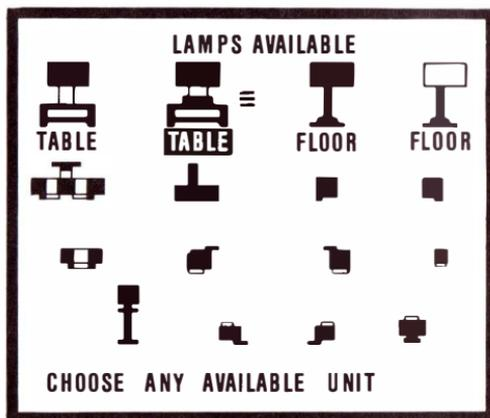

FIGURE 18
1. Choose either lamp or appliance with the joystick and press the button. In this case choose lamp. A screen of lamps will be shown, Figure 18. Names only appear under those units suitable for the location you have chosen. You cannot choose a chandelier if you have chosen a floor position. Select one of the lamps shown and press the joystick button. Later you may wish to select an **APPLIANCE** instead of a **LAMP** in step 1. In which case you will be shown a screen of appliances to choose from. And again you will not be able to choose say a T.V. if you had chosen a ceiling position.